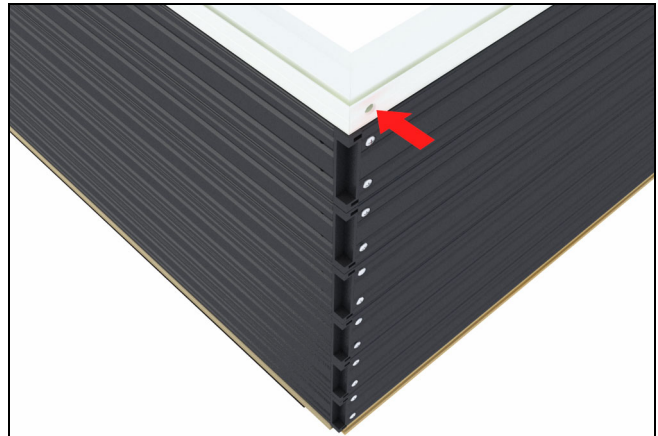

Figure 39
4. Do not install screw into frame cladding miter at this time. See figure 39.